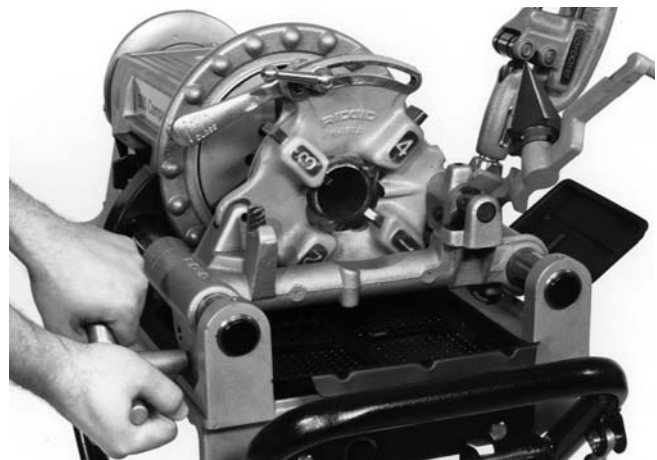

Figure 6 – Threading Pipe With No. 811-A Quick Opening Die Head
5. Turn carriage handwheel to bring dies against end of pipe. Slight pressure on handwheel will start dies (Figure 6).